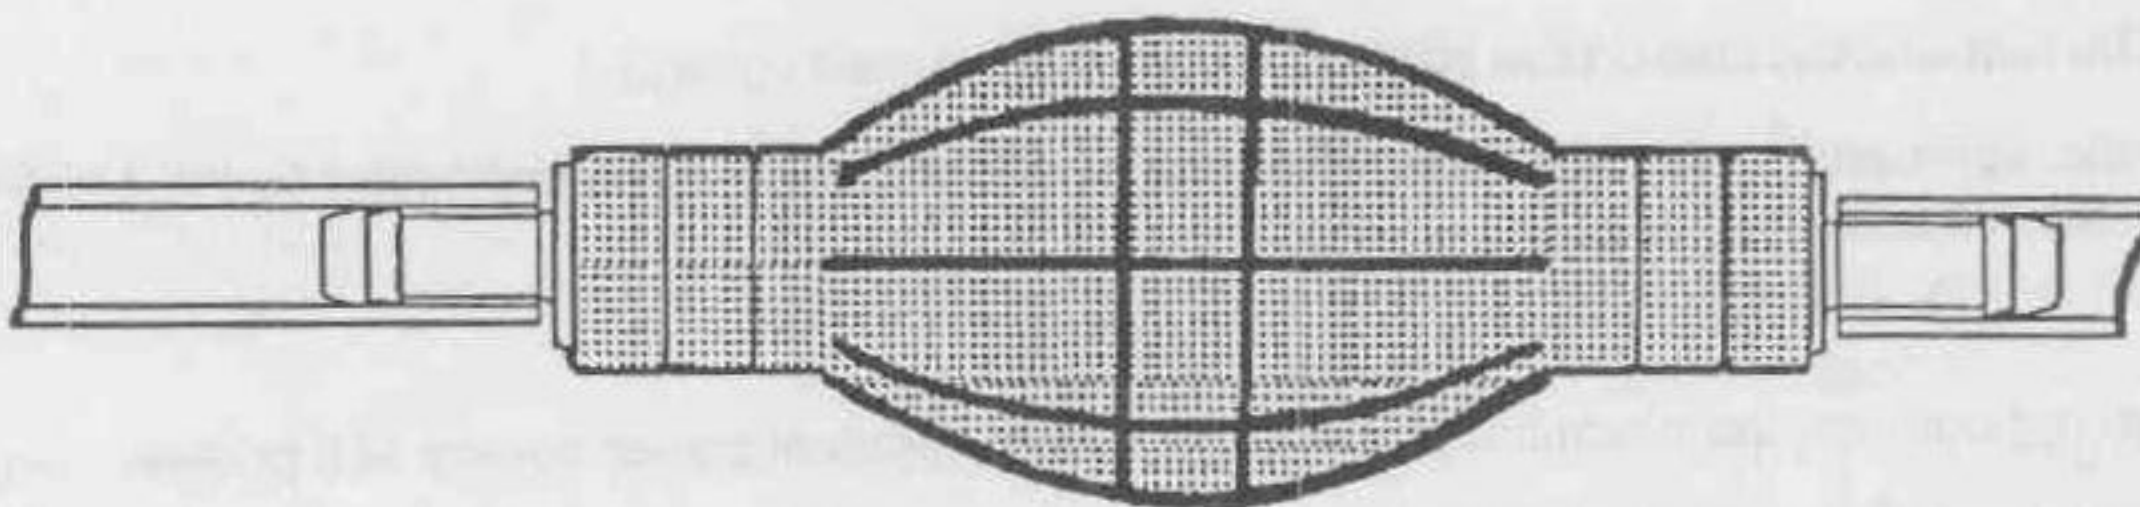

Figure 2-16. Primer bulb
d. *Primer bulb (fig 2-16).* The primer bulb is in line with the outlet hose and is used to prime the pump in the control box. Squeezing the bulb several times while depressing the foot pedal draws water from the potable water can through the inlet hose to the control box. The water continues to be drawn through the pump and heater and then through the outlet hose assembly to the faucet. Discontinue priming when air bubbles are no longer visible in the water moving through the outlet hose.